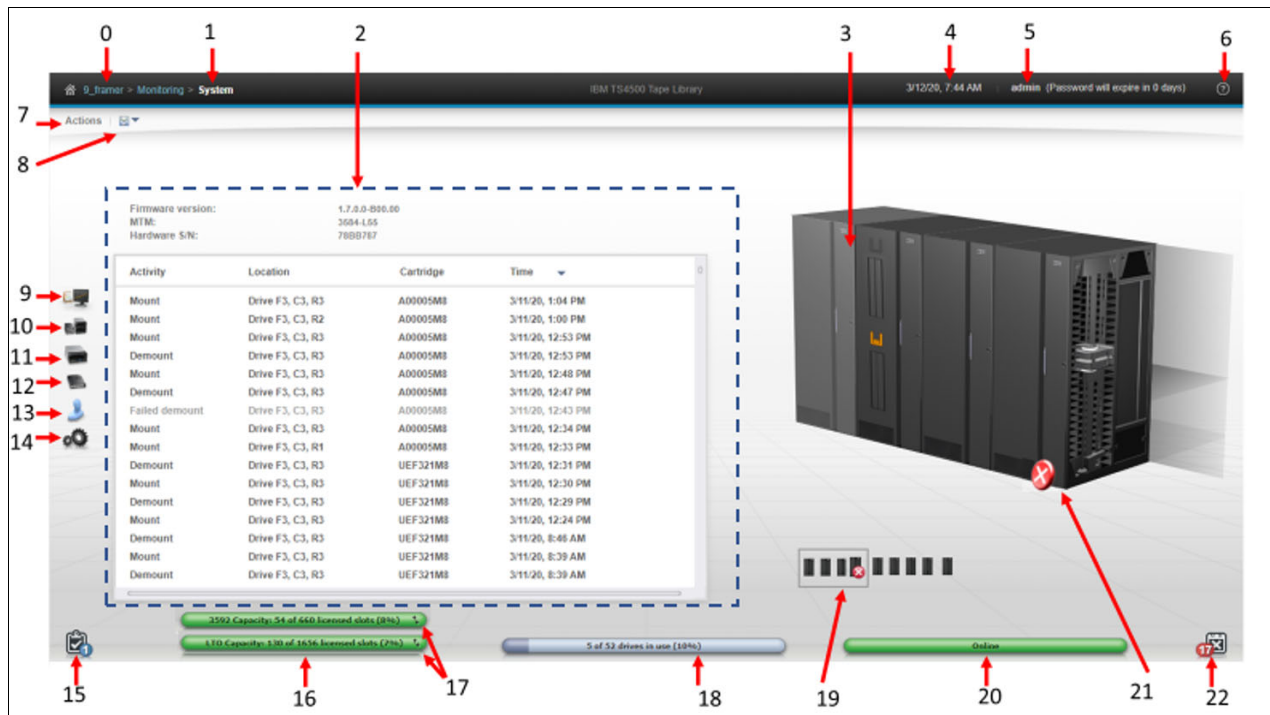

Figure 4-9 System summary display
After login the system summary window is shown, as in Figure 4-9.
For more information about the Management Interface (MI) and the available functions, use the question mark (?) icon or **Help**, which is number 4 in Figure 4-9.
Table 4-3 lists all of the fields that are shown in the window. The numbers in Table 4-3 refer to the numbers that are shown in Figure 4-9 on page 191.